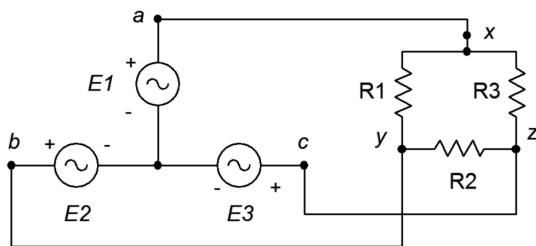

Figure 9.4
7. The system of Figure 9.4 shows a 3-phase Y connected generator feeding a Δ connected load. If the generator phase voltage is 120 volts and the load consists of 3 legs of $60\ \Omega$ each, find the line voltage, the line current, voltage across each load leg and the total power drawn by the load.